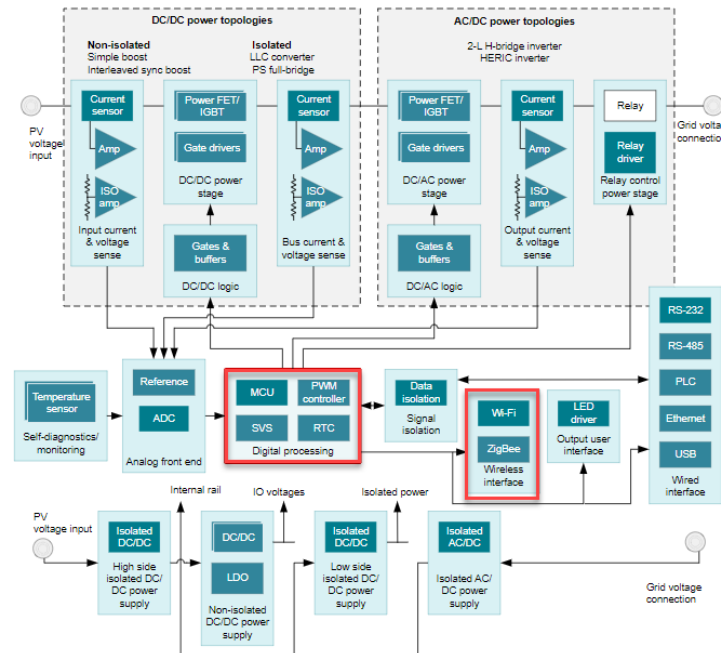

Figure 1. Solar Inverter System Reference Diagram
Green energy has become a critical component of the overall energy strategy for governments, corporations, and individuals. At the heart of green energy is the growing impact of solar power generation. Solar panel or photovoltaic (PV) installations have increased dramatically over the past few years as advancements in technology has significantly reduced the cost of photovoltaic cells that make up solar panels. One technology that has contributed to the increase in solar installations is the availability of low cost and efficient string (see Figure 1) and micro inverter technologies that help address efficiency and scalability concerns often associated with investing in solar power generation. Solar inverter technology is essential for synchronizing a solar installation with the grid so that maximum utility can be realized from the generated power. Solar inverters perform the critical function of converting the Direct Current (DC) generated by solar panels to usable Alternating Current (AC) which can be used on site for home and commercial uses or synchronized back to the grid enabling cost savings through net metering. As solar power generation continues to grow, string and micro inverters have become enabling technologies. Robust and efficient inverter designs have become critical to the PV ecosystem. Inverter systems designers now need to make their designs smarter to improve efficiency and take advantage of power saving algorithms that are being incorporated with other PV system components such as power optimizers. To make inverters smarter, system designers need to use more advanced and capable microcontrollers in their designs. The latest microcontrollers and processors are designed to be low power and extremely efficient. One of the design challenges faced by systems designers as they incorporate these new microcontrollers in their designs is having to align the lower I/O voltage levels of the microcontroller with the higher I/O voltage levels of the peripheral devices of the signal chain such as the wireless communications modules and components of the AC and DC power topologies on the inverter.